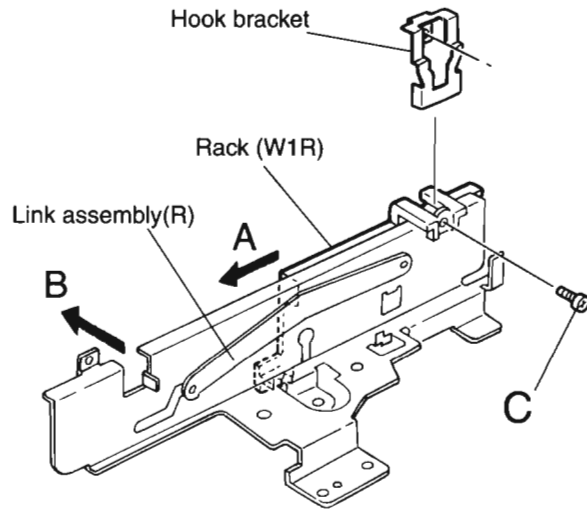

Fig.25
■ Removing the Rack guide base assembly (R) (see Fig.25 and 26)
2. Move Rack (W1R) in the direction of arrow A, then remove it in the direction of arrow B (see Fig.25).